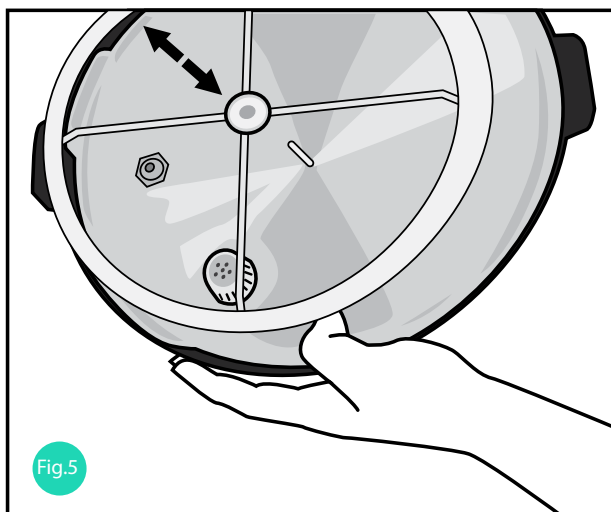

Fig.5
6. Remove the Seal Wire Support. Holding the center of the Seal Wire Support, where the wires intersect, gently pull straight up until it releases from the Peg in the center of the Lid (See Fig. 5).